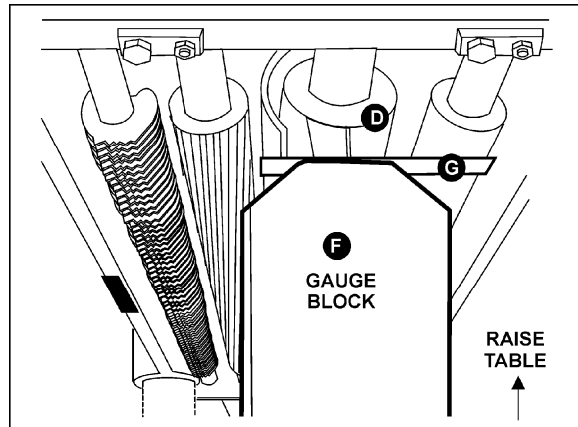

Figure 26
3. Place the gauge block (F, Figure 26) on the table directly beneath the cutterhead (D, Figure 26).
4. Using a 0.032" (0.81mm) feeler gauge (G, Figure 26) placed on top of the gauge block, raise the work table until the knife just touches the feeler gauge when the knife is at its lowest point. Do not move the work table any further until the outfeed roller is adjusted.